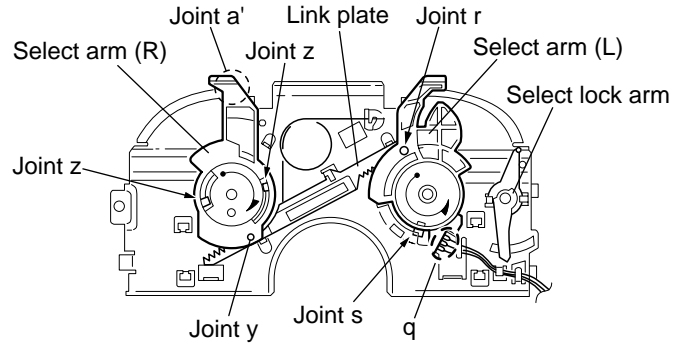

Fig.21
**■ Removing the select arm (L) / select lock arm (See Fig.21 and 22)**
- 1. Bring up the select arm (L) to release from the link plate (joint r) and turn in the direction of the arrow to release the joint s.
- 2. Unsolder the wire of the select arm (L) marked q if necessary.